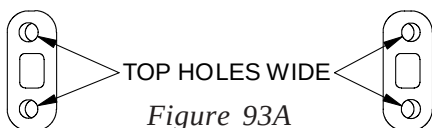
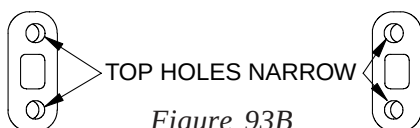

Figure 93A
Figure 93B
Step 11. The top holes in the throttle servo mounts (188) are offset slightly to accommodate different width servos. Look up your throttle servo in the table on page 3, Figure 7C to determine what configuration to assemble the throttle servo mounts (188). The "WIDE" configuration is shown in Figures 93A and the "NARROW" configuration is shown in Figure 93B.
Step 12. Attach the throttle servo mounts (188) to the chassis (19) with two 4-40 x 3/8" flat-head screws (20), so that the mounts are oriented correctly, as shown in Figure 93A or 93B.